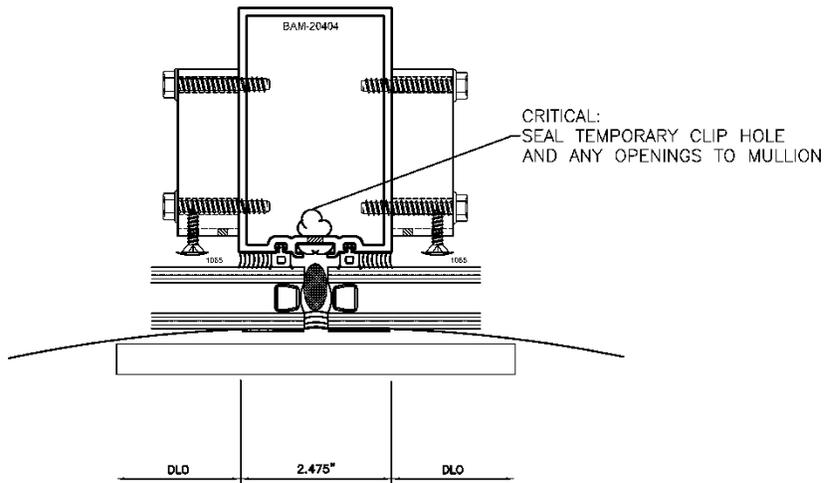

FIGURE E.2
5. Mask glass and system as required. (FIGURE E.2)